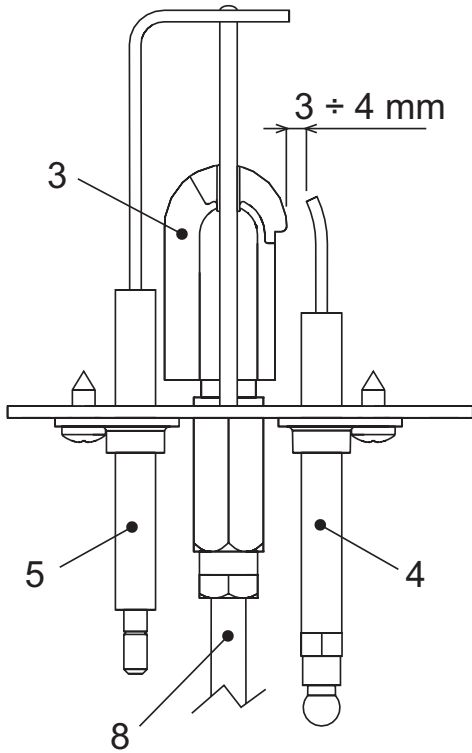

fig. 11 -
- The electrodes must be free of scale and properly positioned (see fig. 11).
- Make sure the electrodes are correctly positioned and free of any deposits (see fig. 11).